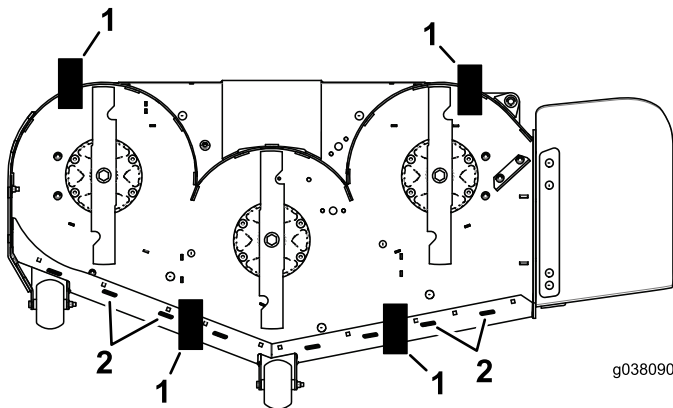

**Figure 106**
10. Slowly loosen the adjusting screw on the lift-assist spring until you can remove the screw (Figure 106).